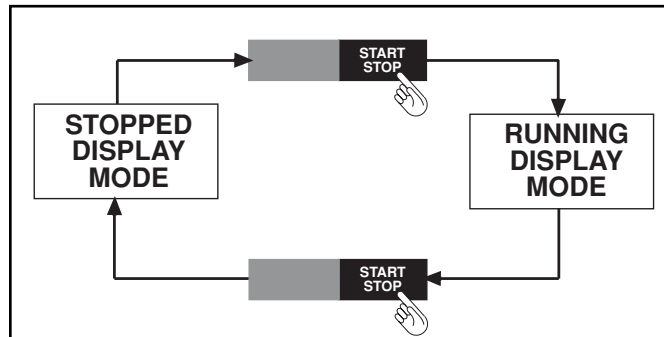

Figure 4-1. STOPPED vs. RUNNING Display Modes
- Turn on the unit's power. You are now in the **STOPPED Display Mode** (refer to Figure 4-1). The motor and the pump(s) are stopped. The display flashes, indicating that the pump motor is waiting for you to do something. The non-flashing, green LEDs indicate the tubing inlets (refer to Section 5.2), but fluid is not flowing.